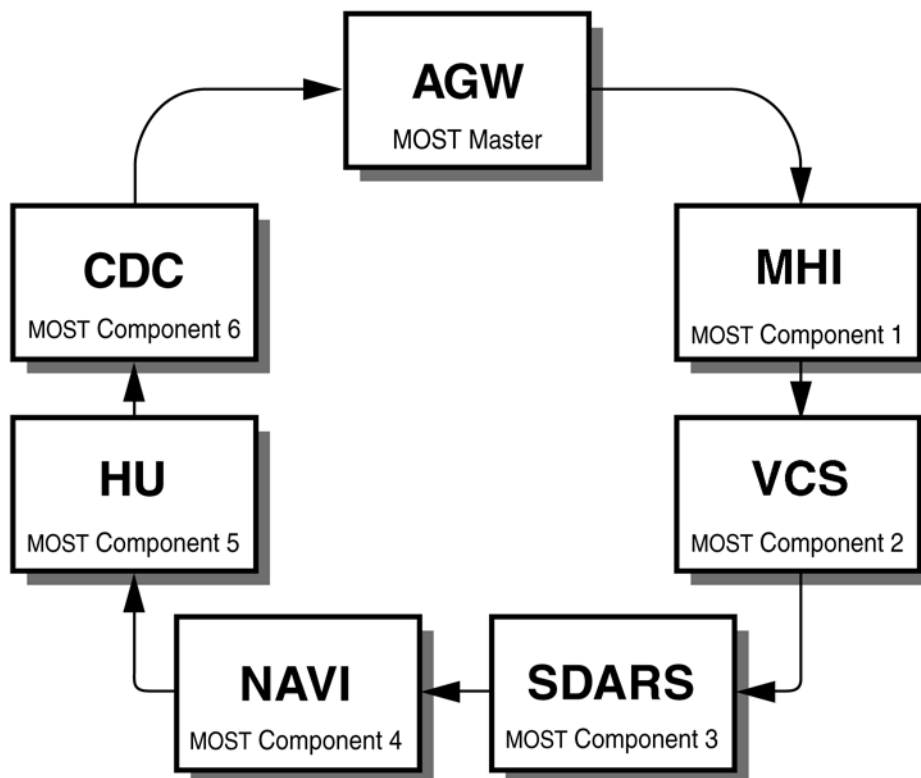

Figure 14
2. Set the MOST ring configuration to match that of Figure 14 via path:
Note: The MOST ring configuration in Figure 14 is an example of a configuration including every component. Some installations will not include all the components shown in the example. If a component is not present, connect the preceding component to the component following the one not present.
Failure to have the configuration match Figure 14 will result in erroneous system operation and/or intermittent malfunctioning of some or all components.
DO NOT alter the configuration in Figure 14 to match the vehicle configuration.